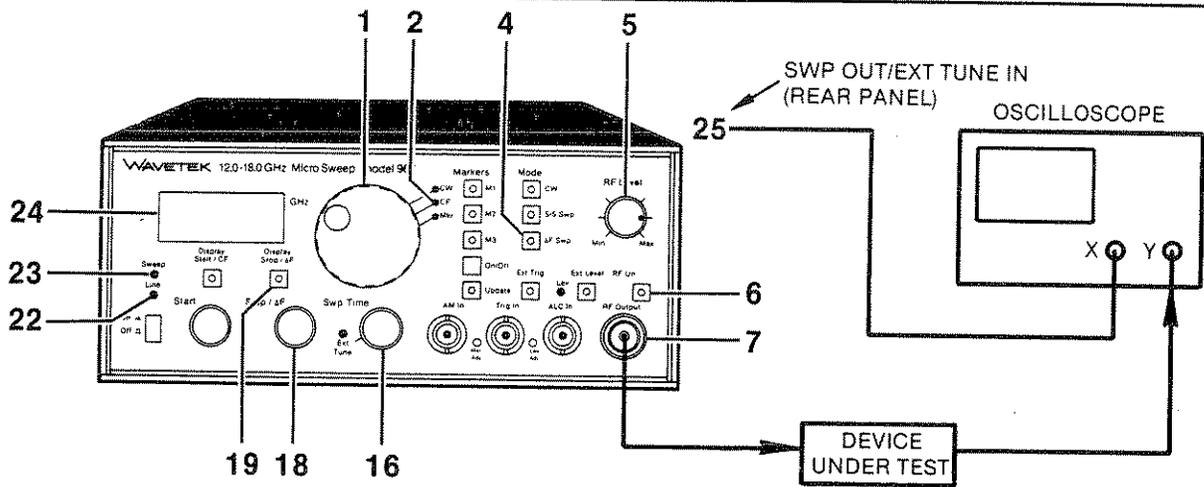

Figure 3-5. ΔF Sweep Operation
In the ΔF Sweep mode, the frequency sweeps symmetrically upward centered on the center frequency (CF). The Main Tuning knob 1 sets the center frequency, while the Stop/ΔF knob 18 sets the total frequency deviation. The Swp Time knob controls the sweep rate. Frequency markers can be used with ΔF Sweep; refer to paragraph 3.2.5. Figure 3-5 indicates the primary controls for the ΔF Sweep operation.